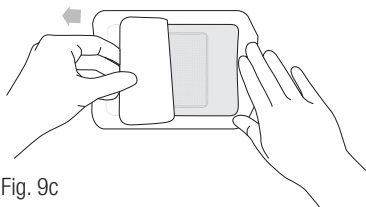

Fig. 9c
- Remove and dispose of center layer from dressing (Figure 9c)